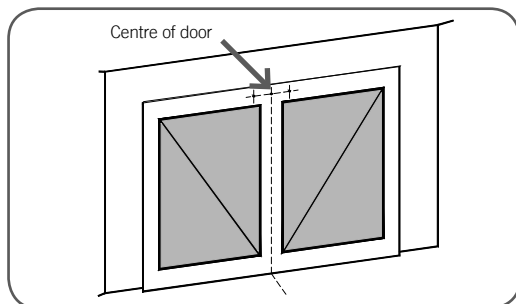

Fig. 14
- Draw two lines 21.5mm either side of this (Fig. 14).